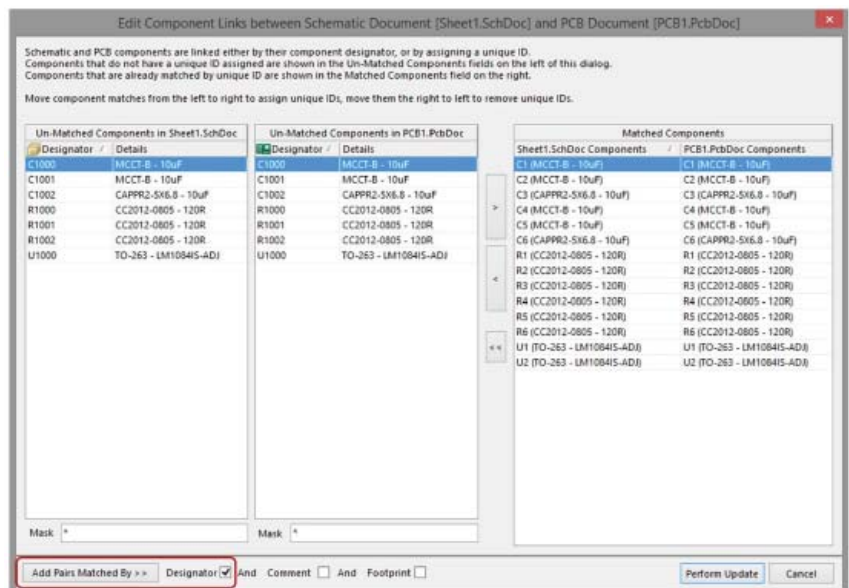

Figure 3: Linking the snippets.
- **'Add Pairs Matched By >>'** button in the lower left corner in Figure 3.